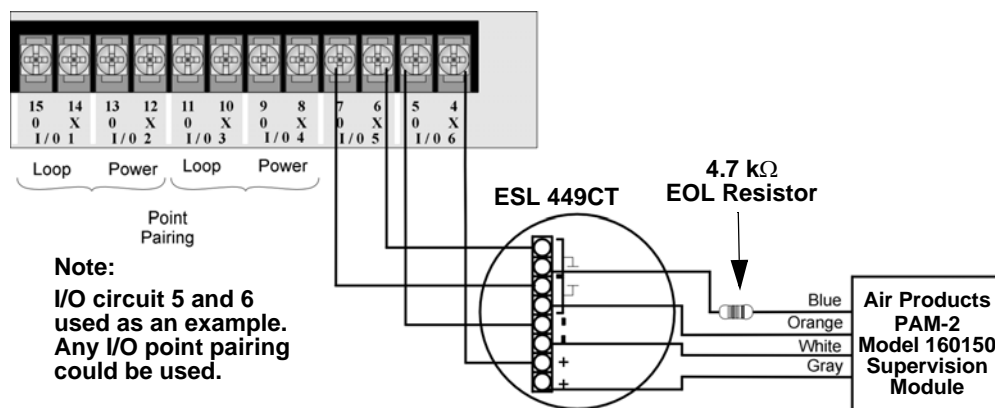

Figure 3.14 Class B 4-Wire Smoke Detector Connections
Figure 3.14 illustrates how to install a 4-wire Class B smoke detector.
2. Each Class B loop input is paired with a unique power source as shown in Figure 3.14.